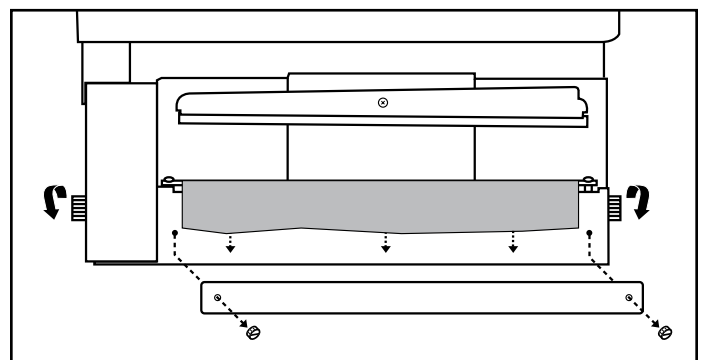

Figure 6: Repositioning lower Teflon® cover
2. Using either one or both of the knobs located on the sides of the machine, rotate the roller slightly so that a new seal area is positioned over the heating element. (See Figure 6)